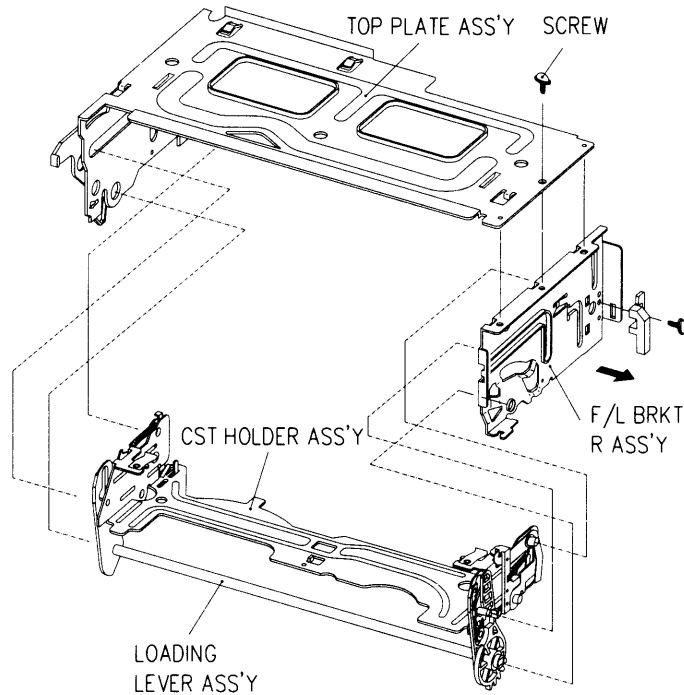

Fig.3-2 DISASSEMBLY OF THE FRONT LOADING ASS'Y
### 3-2. DISASSEMBLY OF THE FRONT LOADING ASS'Y (See Fig. 3-2~3-6)
- b. Remove the CASSETTE HOLDER ASSEMBLY. (Fig. 3-2)